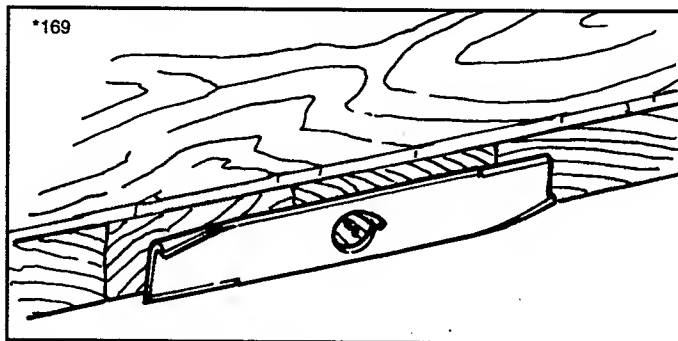

Figure 21 Balancing The Blade
5. Balance the blade as shown in figure 21. Center the blades' hole on a nail lubricated with a drop of oil. A balanced blade will remain level.